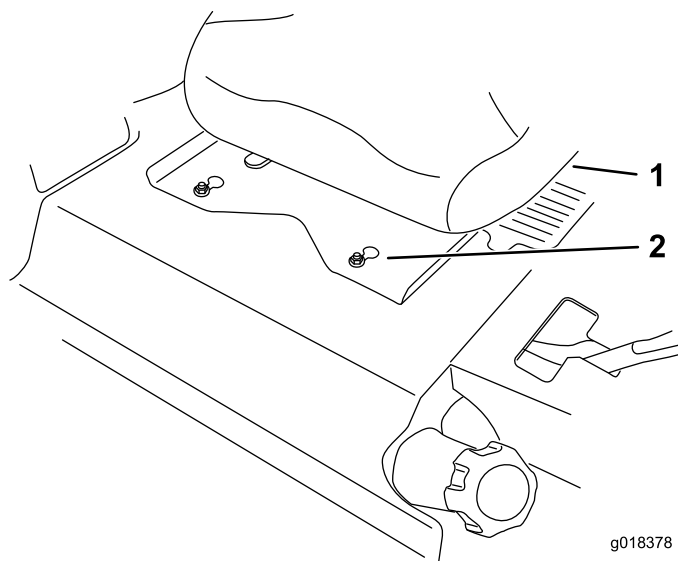

Figure 1
5. Slide the seat and seat plate forward to allow the front nuts to go through the key holes (Figure 1).
- Slide the seat and seat plate rearward to lock the front nuts into the key hole and the rear nuts into the slots (Figure 1).